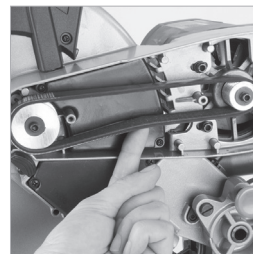

Fig. 49
- Place a finger underneath the drive belt and gently push upwards to discern the tension. **(Fig. 49)**
- When the belt tension is correct, tighten the four (4) socket headed screws and replace the transmission case cover.